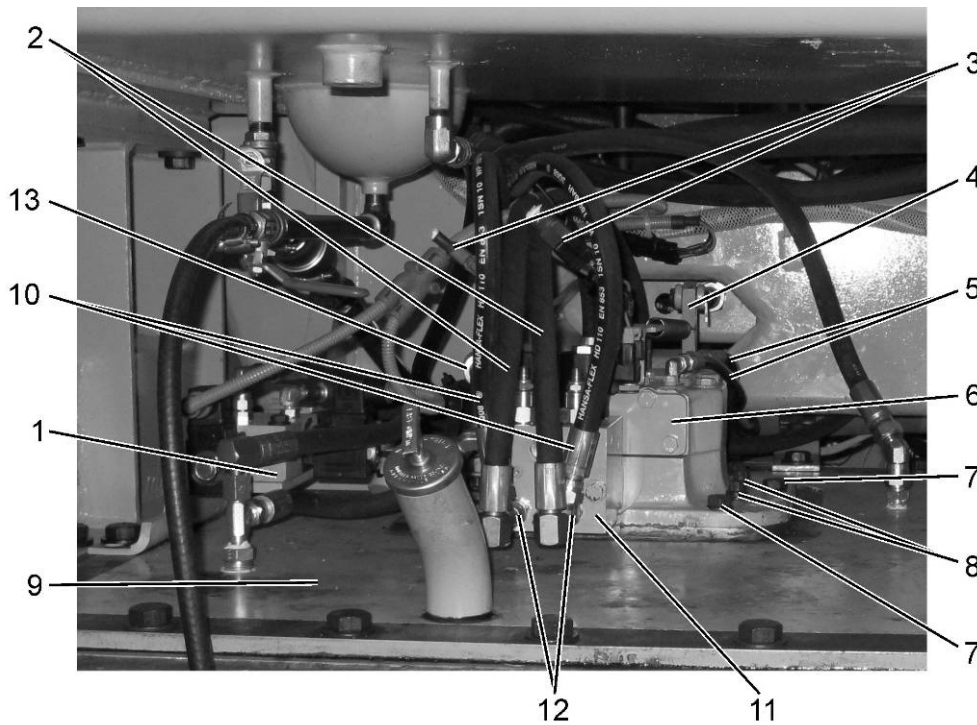

Fig. 7E.12. Two Speed Steering Valve Disconnect Points
9. REMOVAL (Refer to Fig. 7E.12)